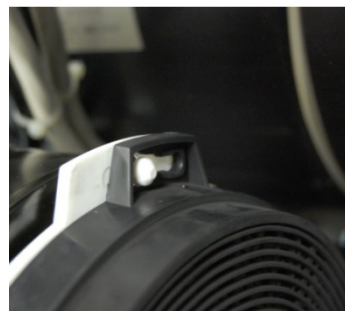

Fig. 3a
- a. (2) Baffle filters (30" models)
- b. (3) Baffle filters (36" / 42" models)
- c. (4) Baffle filters (48" models)
- a. Insert the charcoal filters on each side of the motor on top of the white protective grill as shown below. **(Fig. 3a)**